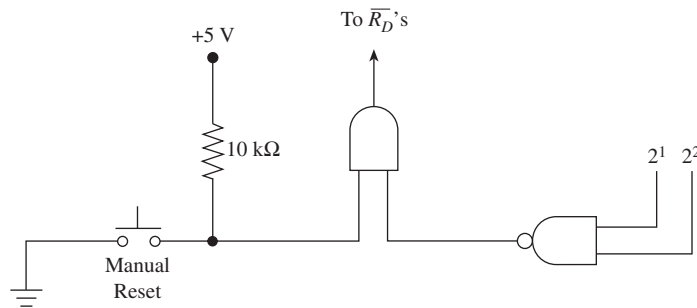

Figure P12–25
- C D** 12–25. The circuit in Figure P12–25 is being considered as a replacement for the Reset circuitry of Figure 12–21. Do you think that it will work? Why?